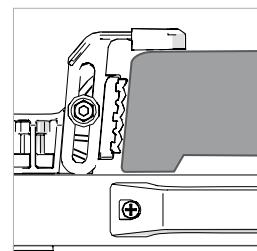

Fig. 19
If your saw base does NOT have a lip that protrudes under the clamp, then the secondary clamp MUST be attached to secure the base from the top. (**Fig. 19**)
- Place the chop saw onto the table with the right hand (RH) edge of the machine's base resting against the two fixed clamps.
- If necessary adjust the secondary clamps to provide enhanced positive location and extra grip to the upper surface of the chop saw base. (**Fig.19**) Tighten these in place using the supplied hex key.